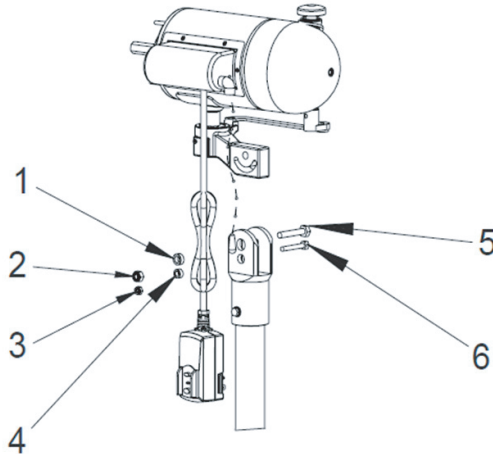

Fig. 4
3. Insert a bolt (5) into the hole on the neck bearing (found on the motor) and into the top of the upper pole. Secure them together using a bushing (1) and a nut (2). Insert one bolt (6) through the hole in the neck bearing and into the top of the upper connecting pole and secure them using a bushing (4) and a nut (3). See Fig. 4.